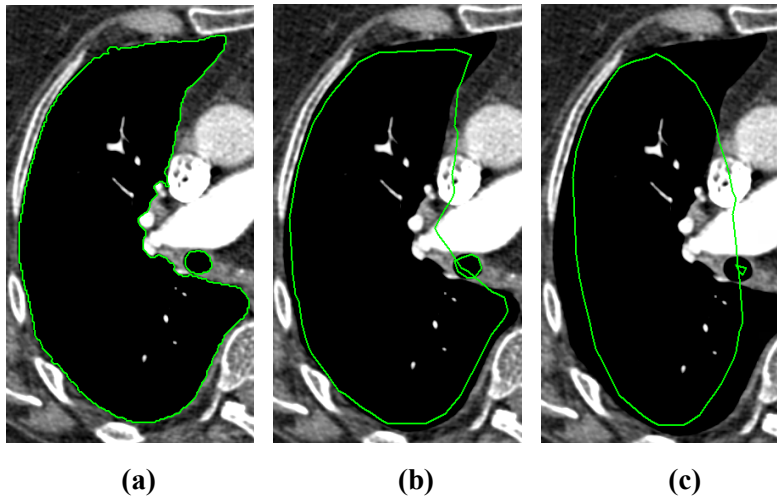

Figure 262 – (a) Source ROI, (b) smoothen ROI (applied once), (c) smoothen ROI (applied 5 times)
4. Click the **Apply** button as many times as necessary to achieve the desired setting. The result is immediately displayed in the current view (see Figure 262).